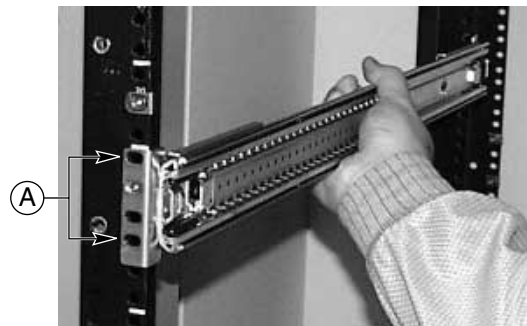

Figure 8 Slide Assembly Aligned with Holes in Rack
Figure 8 shows the slide assembly aligned with the holes in the rack. The holes are noted by "A."
4. As shown in Figure 8, insert two screws in the front bracket and rack holes. Tighten the screws to secure the front of the slide assembly to the rack.